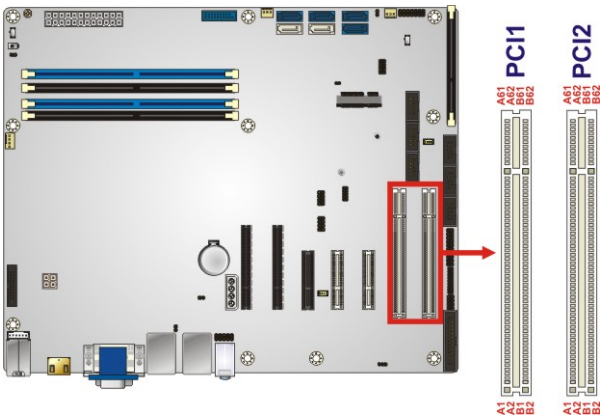

Figure 3-20: PCI Slot Locations
- CN Location: See **Figure 3-20**